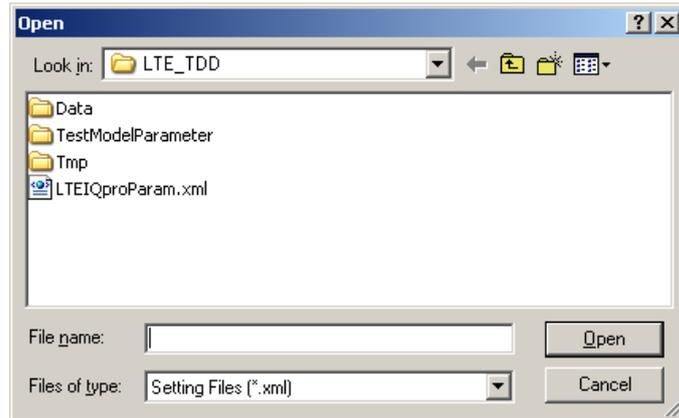

Figure 3.5-1 User file reading screen
2. Select **CCDF** from the **Simulation** menu or click the  tool button. The CCDF Graph Monitor screen shown in Figure 3.5-1 is displayed with the trace of the generated waveform pattern.